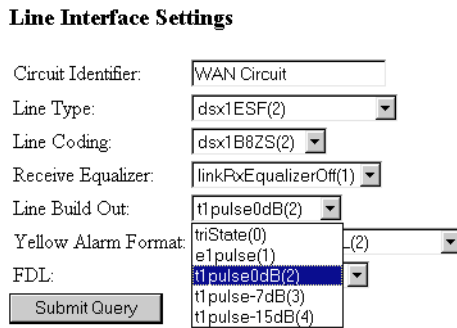

Figure 49. Line Build Out pull-down menu with t1pulse0dB(1) selected
- From the *Line Build Out* pull-down menu (see figure 49) select *t1pulse0dB(1)*.